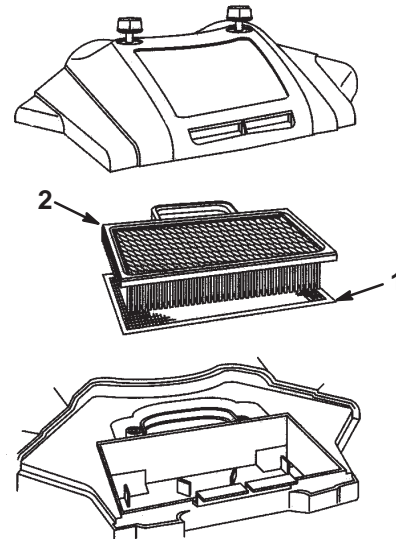

Figure 34
3. Lift out the paper cartridge and the foam element (Fig. 34).
3. Install the air cleaner cover and knobs (Fig. 34).